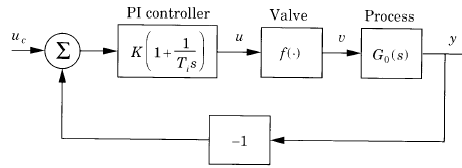
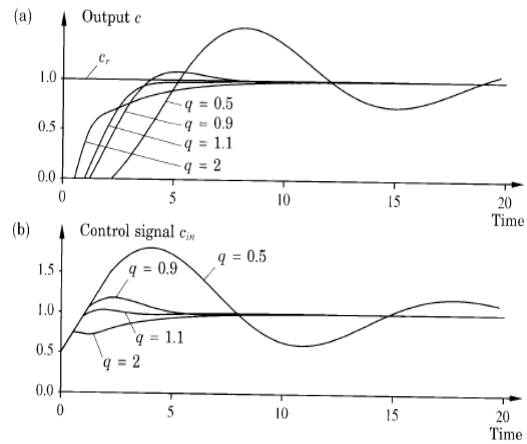

Figure 1.8 Block diagram of a flow control loop with a PI controller and a nonlinear valve.
Figure 1.11 Change in reference value for different flows for the system in Example 1.5. (a) Output c and reference c_r concentration, (b) control signal.
A simple feedback loop with a Proportional and Integrating (PI) controller, a nonlinear valve, and a process is shown in Fig. 1.8. Let the static valve characteristic be
The closed-loop system is as in Fig. 1.8 with $f(\cdot) = 1$ and $G_0(s)$ given by Eq. (1.5). A controller will first be designed for the nominal case, which corresponds to $q = 1$, $T = 1$, and $\tau = 1$. A PI controller with gain $K = 0.5$ and integration time $T_i = 1.1$ gives a closed-loop system with good performance in this case. Figure 1.11 shows the step responses of the closed-loop system for different flows and the corresponding control actions. The overshoot will increase with decreasing flows, and the system will become sluggish when the flow increases. For safe operation it is thus good practice to tune the controller at the lowest flow. Figure 1.11 shows that the system can easily cope with a flow change of $\pm 10\%$ but that the performance deteriorates severely when the flow changes by a factor of 2. \square